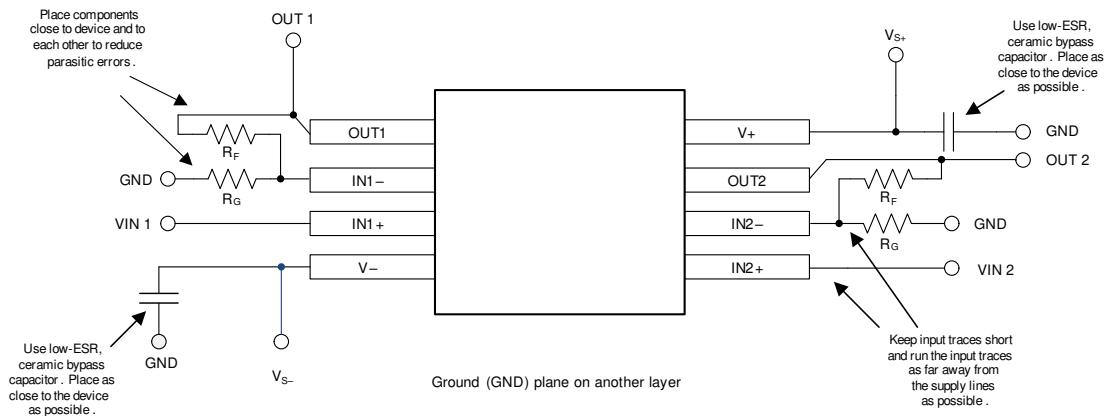

图 39. Layout Example
- Place the external components as close to the device as possible, as shown in 图 39. Keeping  $R_F$  and  $R_G$  close to the inverting input minimizes parasitic capacitance.